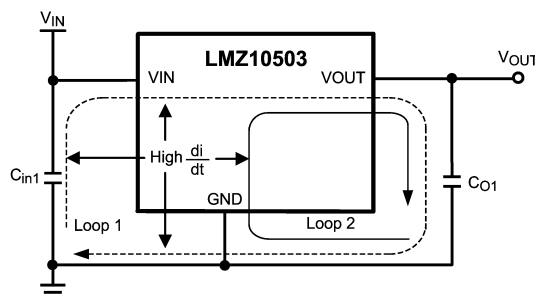

Figure 21. High Current Loops
From an EMI reduction standpoint, it is imperative to minimize the high di/dt current paths. The high current that does not overlap contains high di/dt, see Figure 21. Therefore physically place input capacitor ( $C_{in1}$ ) as close as possible to the LMZ10503 VIN pin and GND exposed pad to avoid observable high frequency noise on the output pin. This will minimize the high di/dt area and reduce radiated EMI. Additionally, grounding for both the input and output capacitor should consist of a localized top side plane that connects to the GND exposed pad (EP).